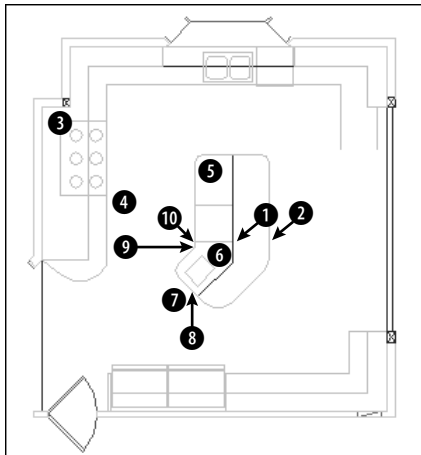

Figure 9-19: A kitchen floor plan.
1. Open `ab09-e.dwg` from the CD-ROM, as shown in Figure 9-19.
3. Draw a line from ① to ② in Figure 9-19. You will use this later to illustrate the Last selection option.
10. Turn on OSNAP. Start the MOVE command. At the **Select objects:** prompt, type **p ↵** and then press Enter again to end object selection. At the **Specify base point or [Displacement] <Displacement>:** prompt, pick the endpoint at **9** in Figure 9-19. At the **Specify second point of displacement or <use first point as displacement>:** prompt, pick the endpoint at **10**. All of the objects move.